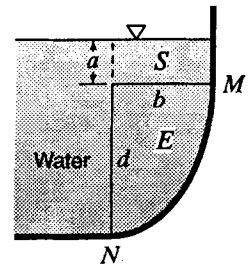

Figure X3.8.9
3.8.9 A tank with vertical ends contains water and is 6 m long normal to the plane of Fig. X3.8.9. The sketch shows a portion of its cross-section where MN is one-quarter of an ellipse with semiaxes  $b$  and  $d$ . If  $a = 1.0$  m,  $b = 2.5$  m, and  $d = 4$  m, find, for the surface represented by MN, the magnitude and position of the line of action of (a) the horizontal component of force; (b) the vertical component of the force; (c) the resultant force and its direction relative to the horizontal.